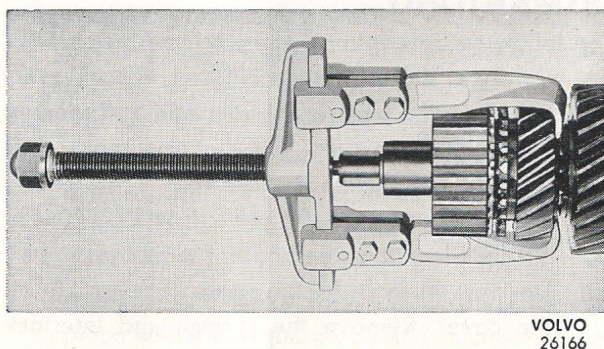

Fig. 26. Removing the front synchronizer
3. Remove the circlip on the front end of the shaft. Pull off the synchronizing hub and 2nd speed gear wheel with a suitable puller, see Fig. 26. Remove the thrust washer.